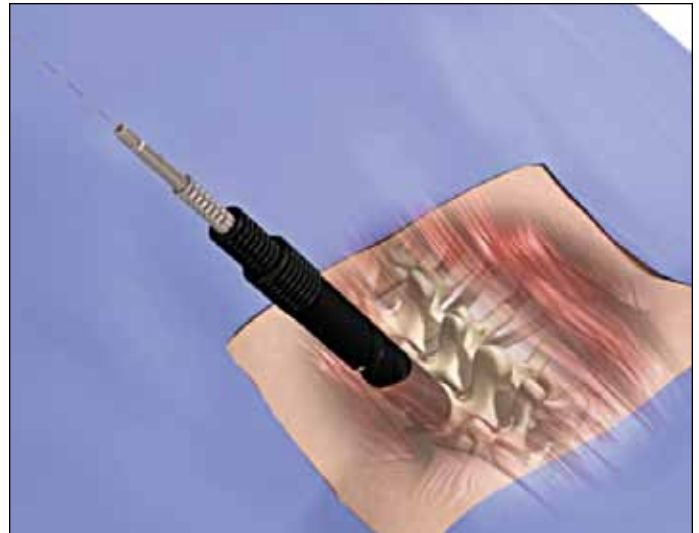

FIG. 12
- Sequentially place Dilators 2, 3 and 4, smallest to largest, over the Guide Wire and advance until bony contact is made. (FIG.12)